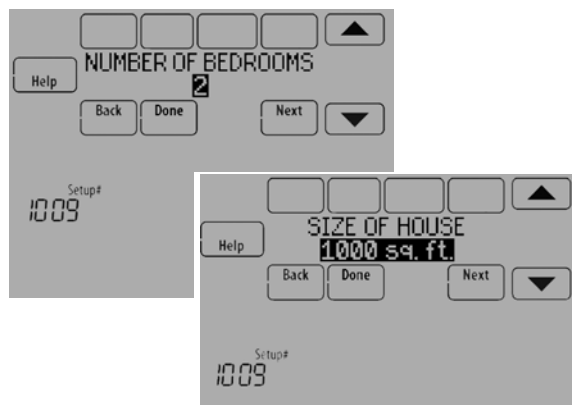

Fig. 230.
5. If ASHRAE was selected for ISU 1005, select the Number of Bedrooms and Size of House. See Fig. 230.